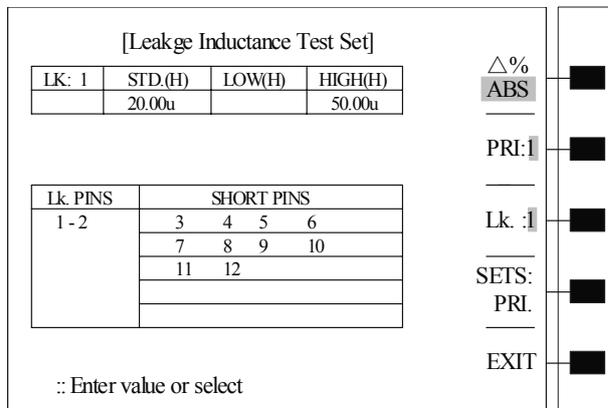

Figure 3-2-4-9
- Press **[Test set]** to enter into **<Leakage Inductance test set>** page layout showed as figure 3-2-4-9: